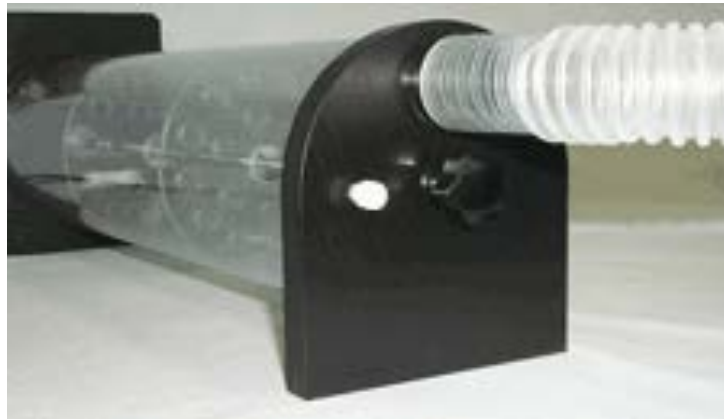

Figure 2: Inlet of Gas-System2 connected to AFT7 tubing
- (b) Connect AFT7 tubing to the inlet of Gas-System2 (Fig. 2).